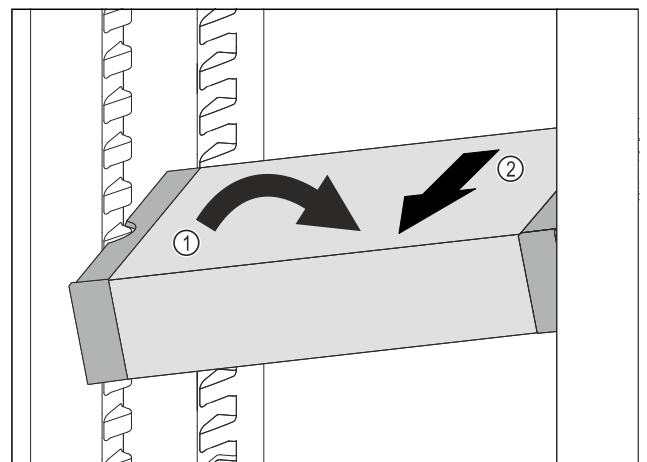

Fig. 165
- ▶ Set VarioSafe in refrigerator compartment at an angle. Fig. 165 (1)
- ▶ Take VarioSafe out to the front. Fig. 165 (2)